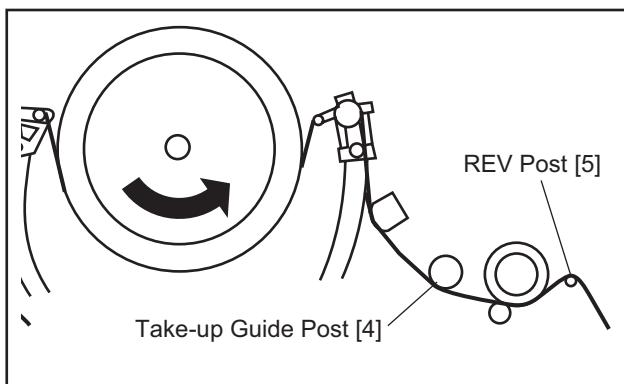

Fig.11
- (1) Insert a blank cassette tape into the tray and set the unit to REV. Then confirm if the tape has been curled up or bent at the Take-up Guide Post[4] or REV Post[5]. (Refer to Fig. 11 and 12.)
- (2) When the tape has been curled up or bent, turn the alignment screw to adjust the height of REV Post. (Refer to Fig. 11 and 13.)